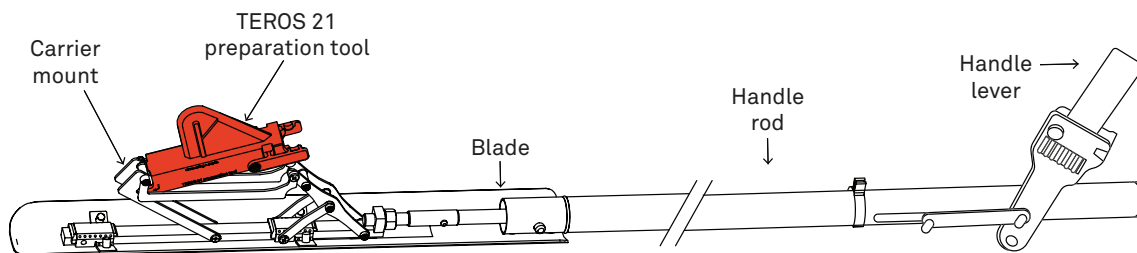
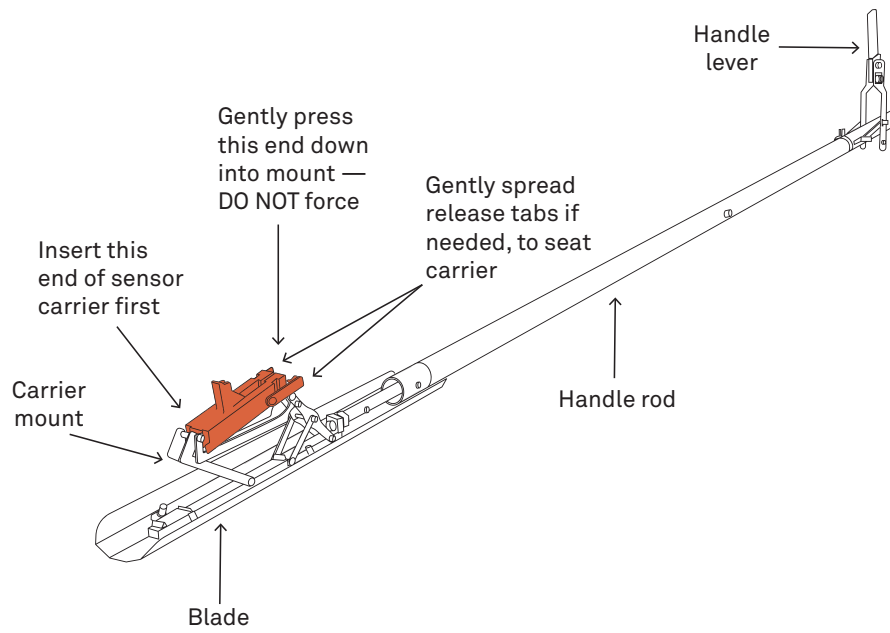

Figure 20 Mount preparation tool
Figure 24 Mount the TEROS 21 sensor carrier
Always install the deepest sensor first. The preparation tool, sensor carrier and sensor should only be inserted while the carrier mount is extended as shown in Figure 20 and Figure 24.
3. Slide the tool end that the **Arrow** points to into the carrier mount (Figure 20).
3. Slide the carrier end that the **Arrow** points to into the carrier mount (Figure 24).